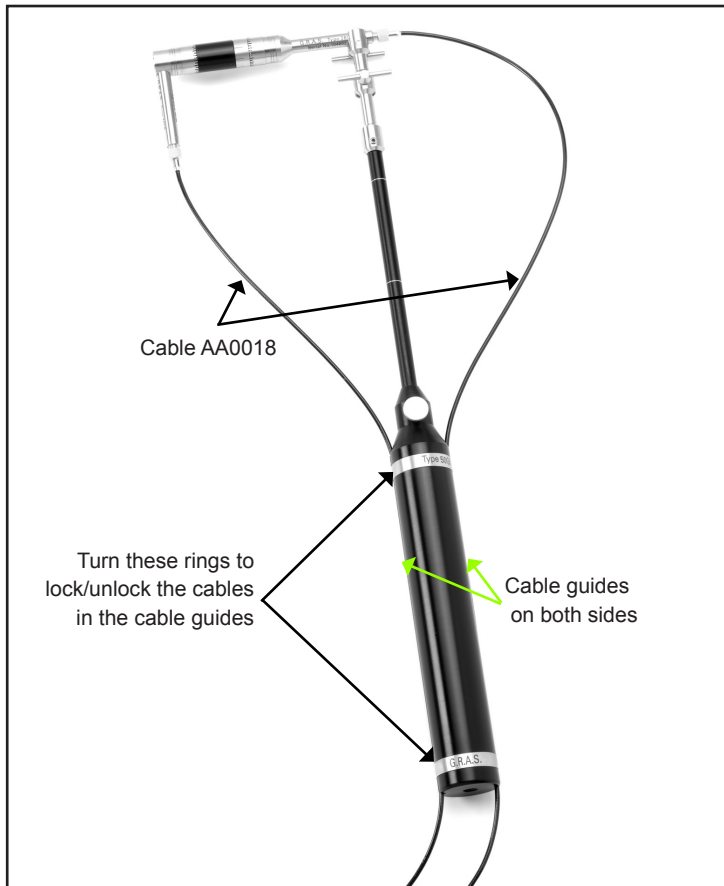

Fig. 3.7 Example of completely assembled Probe Type 50GI
9. Connect the Cable AA0018 to the preamplifiers (Fig. 3.7).
10. Mount the cables into the cable guides of the probe handle (Fig. 3.7).